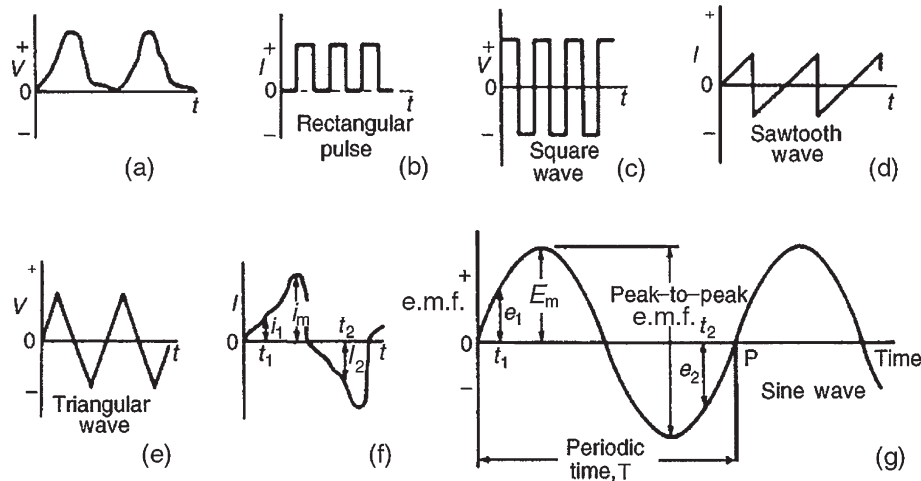

Figure 14.3
If values of quantities which vary with time  $t$  are plotted to a base of time, the resulting graph is called a **waveform**. Some typical waveforms are shown in Fig. 14.3. Waveforms (a) and (b) are **unidirectional waveforms**, for, although they vary considerably with time, they flow in one direction only (i.e. they do not cross the time axis and become negative). Waveforms (c) to (g) are called **alternating waveforms** since their quantities are continually changing in direction (i.e. alternately positive and negative).
A waveform of the type shown in Fig. 14.3(g) is called a **sine wave**. It is the shape of the waveform of e.m.f. produced by an alternator and thus the mains electricity supply is of 'sinusoidal' form.
One complete series of values is called a **cycle** (i.e. from O to P in Fig. 14.3(g)).
**Instantaneous values** are the values of the alternating quantities at any instant of time. They are represented by small letters,  $i$ ,  $v$ ,  $e$ , etc., (see Fig. 14.3(f) and (g)).
The largest value reached in a half-cycle is called the **peak value** or the **maximum value** or the **amplitude** of the waveform. Such values are represented by  $V_m$ ,  $I_m$ ,  $E_m$ , etc. (see Fig. 14.3(f) and (g)). A **peak-to-peak** value of e.m.f. is shown in Fig. 14.3(g) and is the difference between the maximum and minimum values in a cycle.